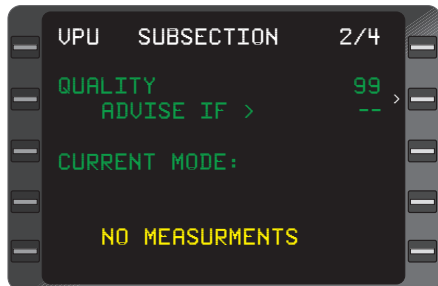

Figure 2-32
The numerical display in this field indicates the reliability of the position data from the VPU. The number will range from 2 to 99 (with 2 being optimum and 99 as dead reckoning). (Figure 2-32)
This field is an enterable field in which the operator may input a quality factor value from 2 to 98. If the VPU **QUALITY** exceeds this value a message is displayed on **SENSOR MESSAGES** Page. (Figure 2-32)
**CURRENT MODE:** Indicates the current mode of VPU navigation. The messages that can appear under it: (Figure 2-32)
The VPU is not using a manually or keyboard tuned station because of a possible station frequency conflict within the aircraft's current line-of-sight. (Figure 2-32)